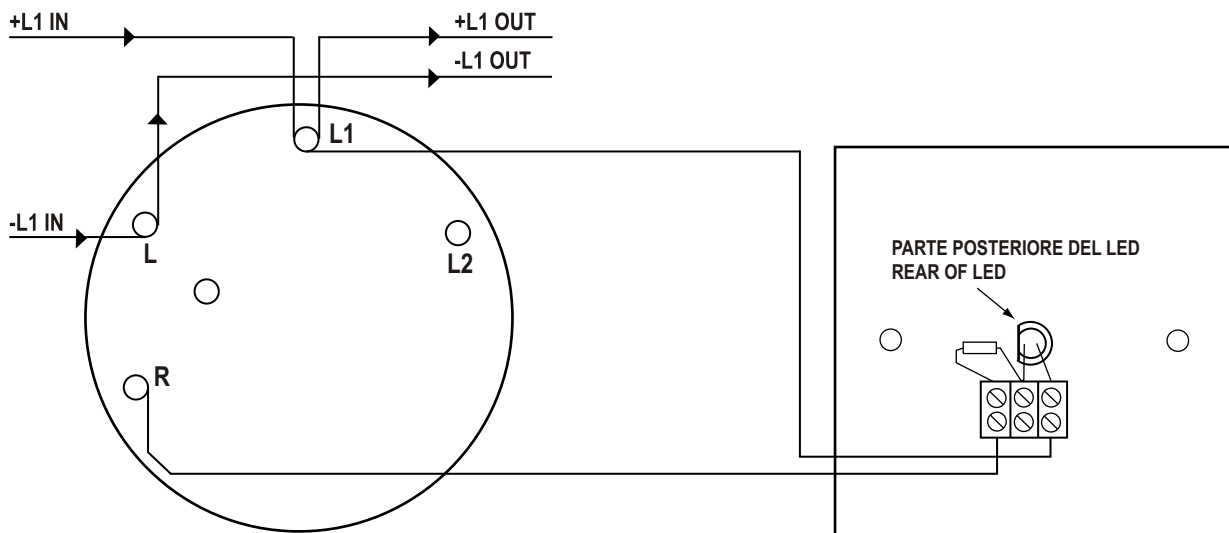

FIG. 2 Wiring Diagram showing connections to rear of the 801RIL
- 3) Wire according to Fig. 2.